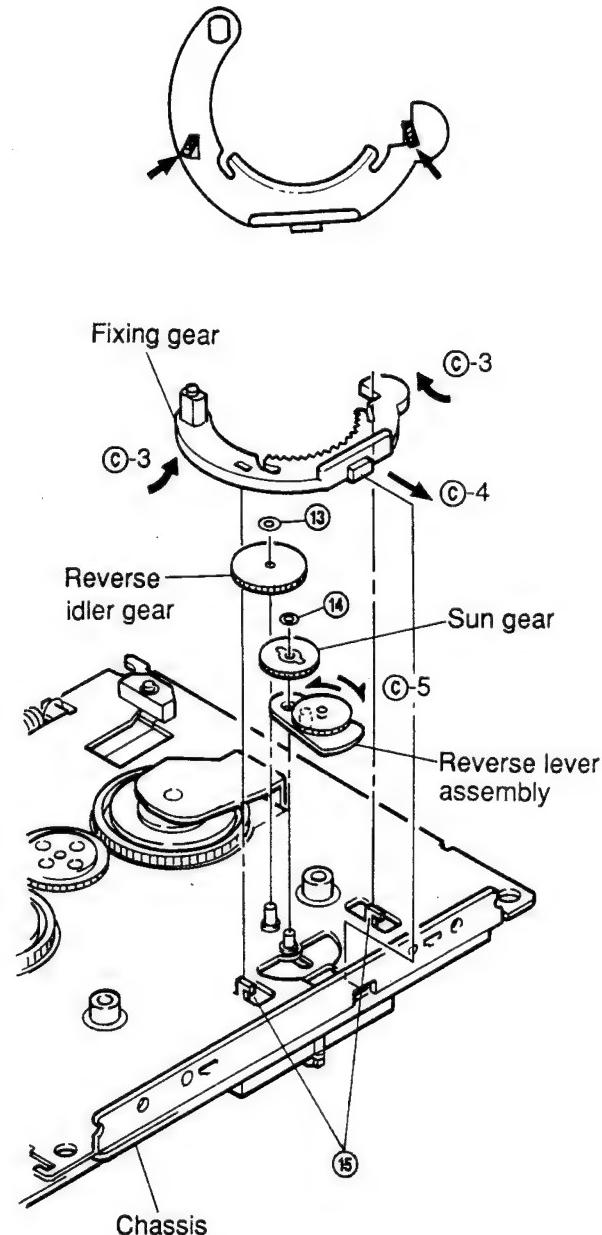

Figure 13
- (1) Remove M1.2 lock washer ⑯, pull it up from the stud of the chassis and remove the gear as shown in Figure 13.
- (2) Remount following the removal steps in the reverse order.
- (1) Remove M1.2 lock washer ⑰, pull it up from the stud of the chassis and remove the gear as shown in Figure 13.
- (2) Mount it, following the removal steps in the reverse order.
- (1) Adjust the two mounting claws for the fix gear on the chassis ⑯ and remove the section ⑮ of the gear by pulling it up in the direction of the arrow shown in Figure 13.
- (2) Insert the section ⑯-4 of the new gear into the chassis, and mount it following the removal steps in the reverse order as shown in Figure 13.
- (1) Remove both the fixing gear and the sun gear and remove the reverse lever assembly as shown in Figure 13.